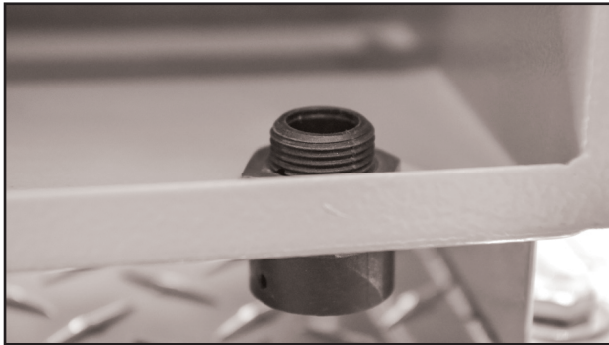

Fig. 2.
***Please ensure the drain plug is installed as per Fig. 2.